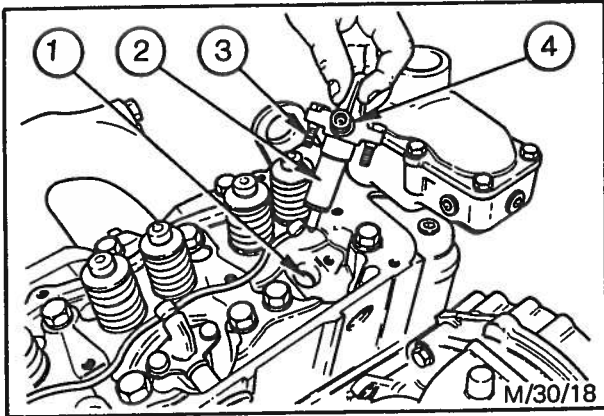

Fig. 76 - Replacing Injectors
- 100. Ensure that the cylinder head injector apertures are thoroughly clean, then fit new sealing washers - see Fig. 76.